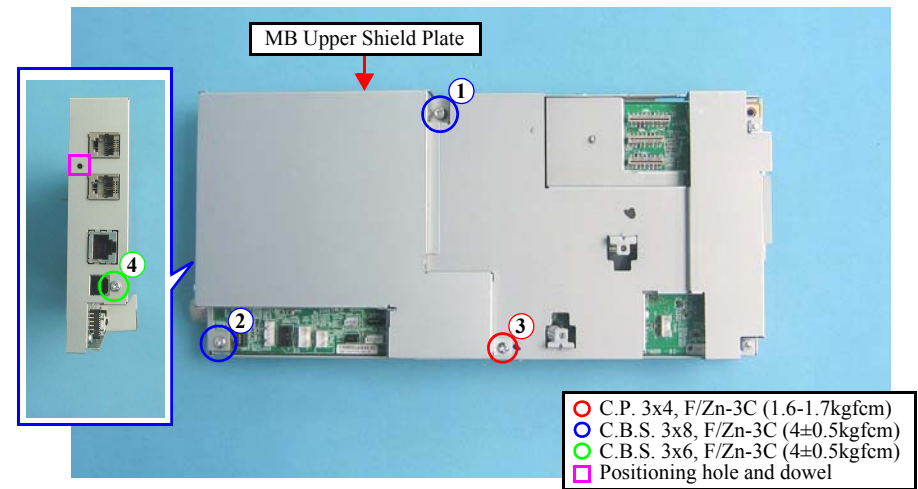
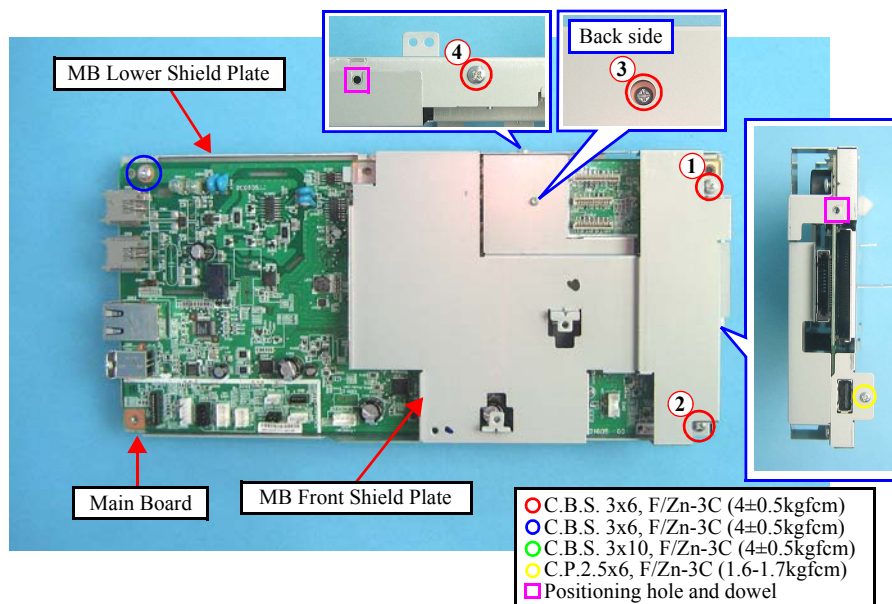

Figure 4-26. Removing the MB Upper Shield Plate
Figure 4-27. Removing the Main Board
- When reassembling the Main Board Unit, make sure to match the positioning holes to the dowels (x2) as shown in Figure 4-26 and Figure 4-27.
- When installing the MB Upper Shield Plate and MB Front Shield Plate, tighten the screws in the order given in Figure 4-26 and Figure 4-27.